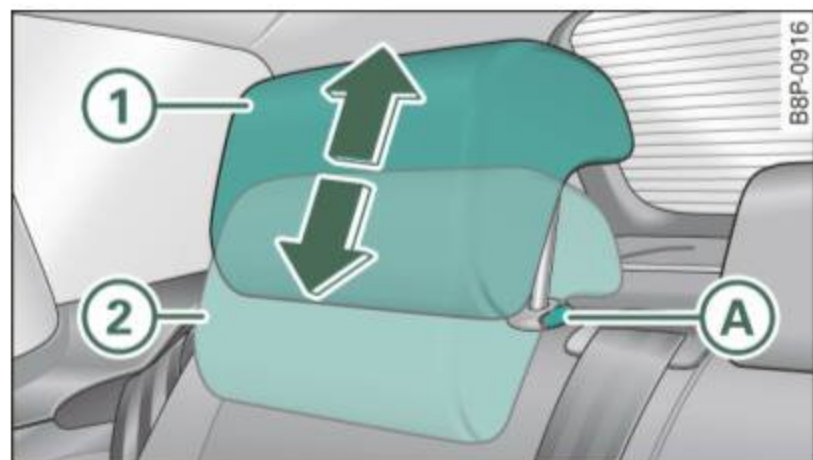

Fig. 98 Outer rear head restraints: adjusting the height
- Move the head restraint to the uppermost position ⇒ fig. 98 ① until it latches (in-use position).
- Press the release button ⇒ page 104, fig. 98 ① A.
- Press the head restraint down until it lies against the seat back ② (park position).
- Press the button ① A ⇒ page 104, fig. 98 and pull the head restraint out at the same time.
- Swing the outer rear head restraints forward ⇒ *page 104*, fig. 98.